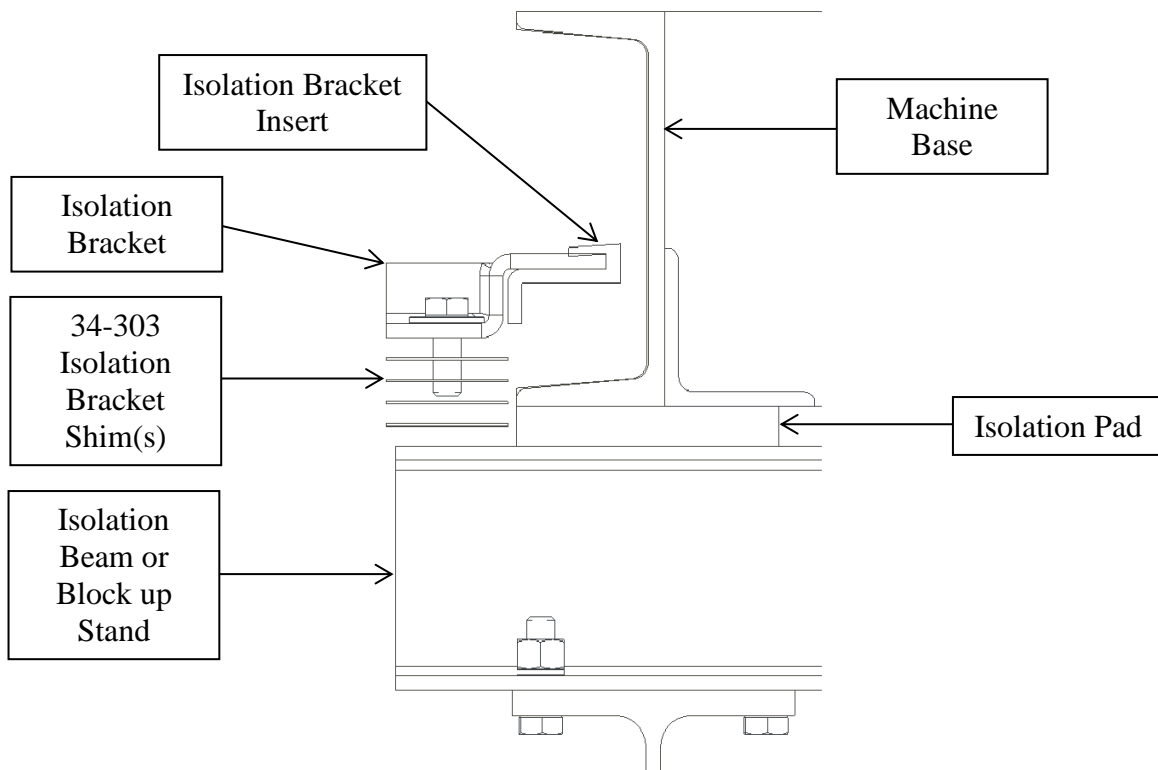

Figure 1: Isolation Assembly
- Reference the sample isolation assembly view shown below in Figure 1.